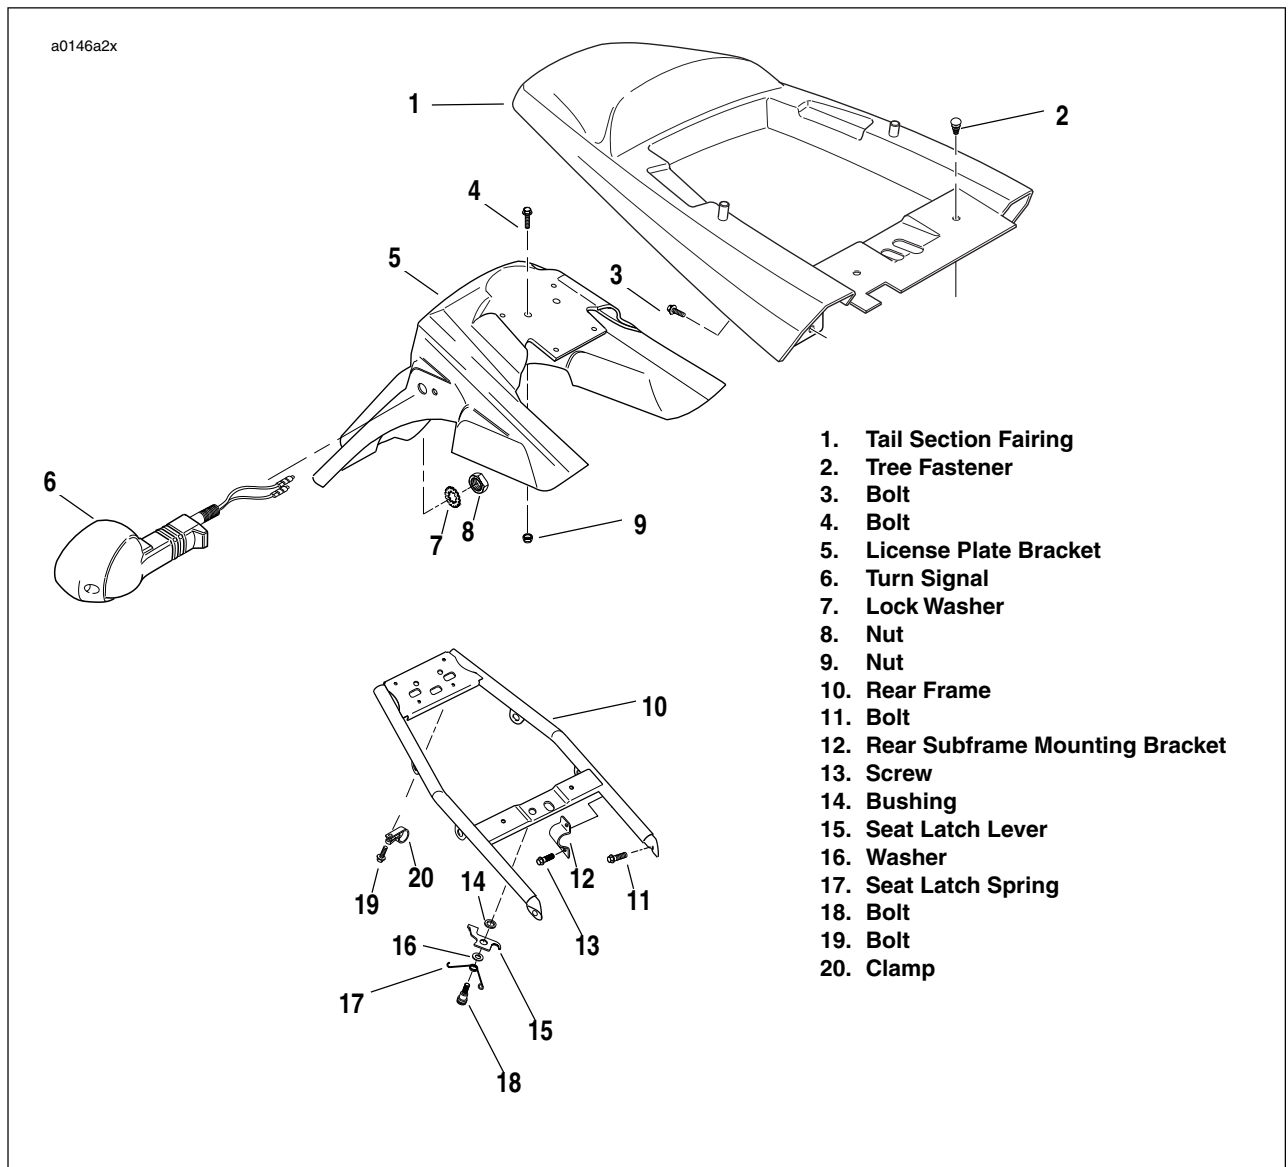

Figure 2-102. Tail Section
2. See Figure 2-102. Remove fasteners and clamp (3, 19 and 20).
3. Remove tree fasteners (2).
4. Remove tail section (1).
3. See Figure 2-102. Remove fasteners (13) and bracket (12).
4. Remove fasteners (11).
5. Slide rear frame assembly (10) out.